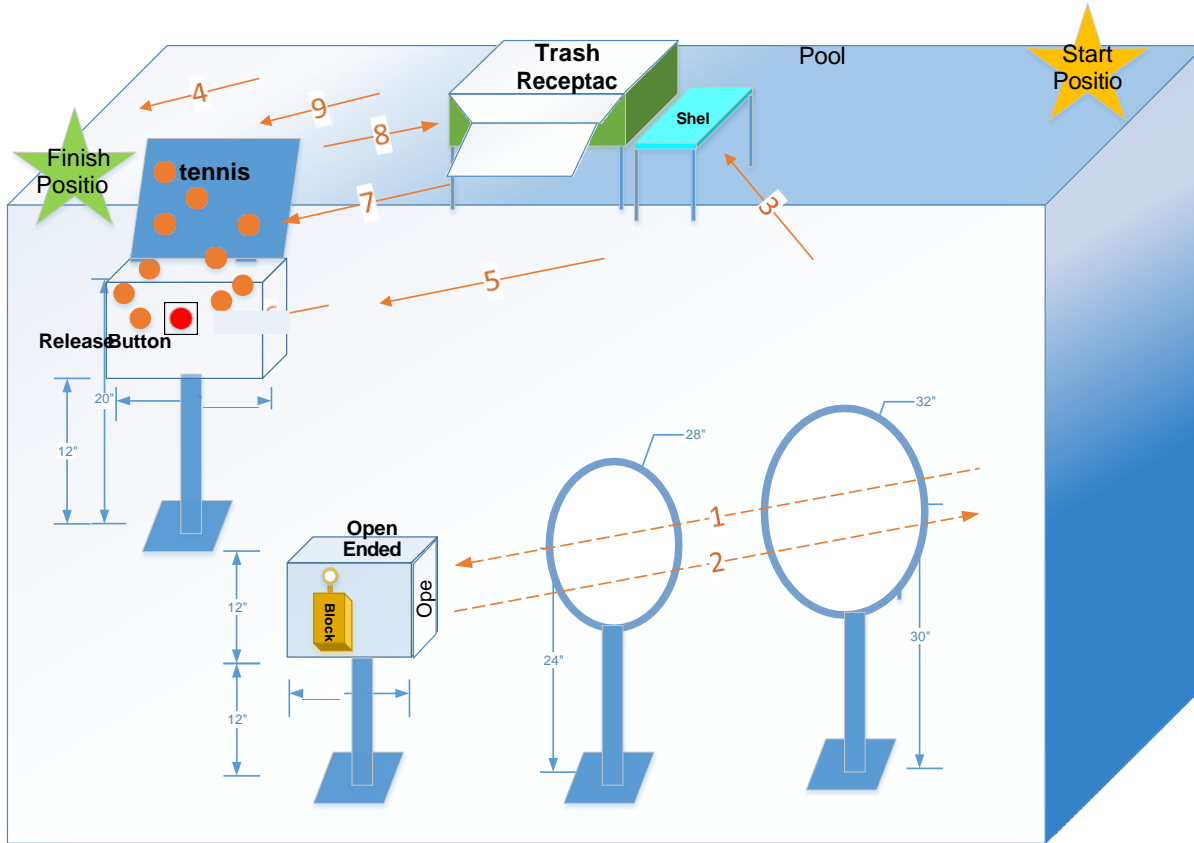
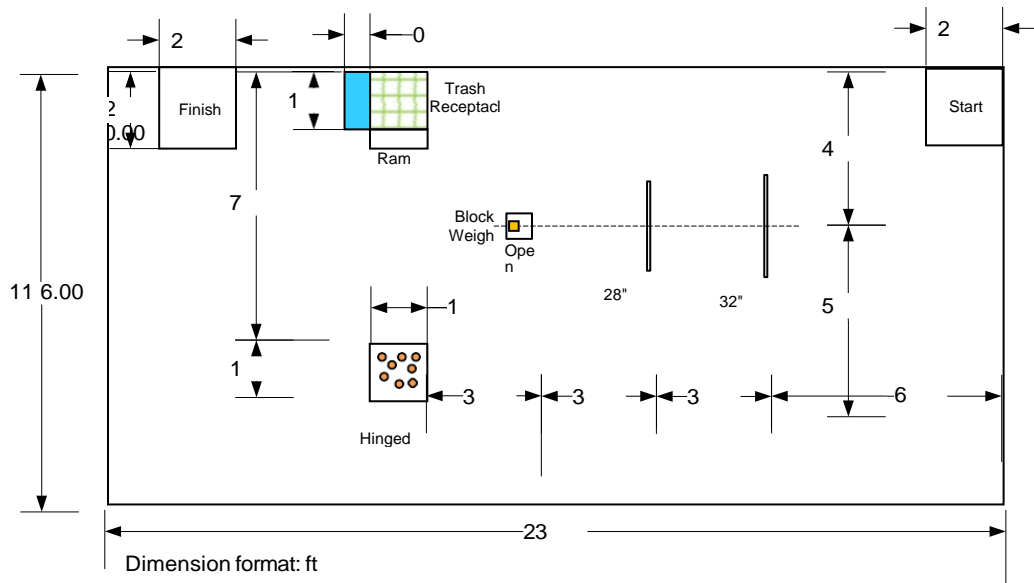

Figure 1 Game Field - Basic Layout and Task Sequence (Not to Scale)
Figure 2 Pool gameplay layout section (top view)
The Game Field is an area in the pool that is 23 ft. 6 in. x 11 ft. 6 in. The water depth is three to four feet, depending on the location in the pool. **Reference (Fig. 1 and Fig. 2)** below that shows an overall view of the field elements and Figure 2 gives the relative positions of the elements and their dimensions. These elements will be placed in each Game Field area:
- **Tunnel Rings** – two metal or plastic rings will be used to simulate an underwater tunnel that the robot will traverse. As shown in Figure 2, the distance between the rings is three feet.
- **Trash Receptacle Shelf** – The trash receptacle shelf will be attached to the side of the trash receptacle box, as shown in Figure 2. The shelf will measure 8" x 18" with a thickness of $\frac{3}{4}$ ". The shelf will be located approximately 6 inches below the surface of the water and is intended to only hold the trash cube when placed from the robot.
(See Figure 1)